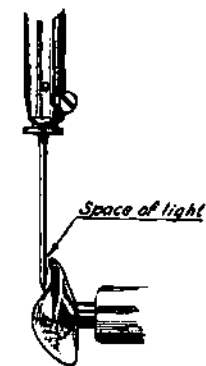

FIGURE 2A
- 4 There should be a space of light barely visible between the point of the Loper and the Needle as shown in Figure 2A. Adjust for proper clearance by loosening Screw D (Figure 3) and moving the Loper in or out the desired amount.
- 5 As a final setting, now that the Loper is properly timed in relation to the lift (or up stroke), the Needle Bar can be readjusted (as described in preceding item 2) so that the point of the looper when passing the Needle is approximately $\frac{1}{32}$ of an inch above the Needle Eye.